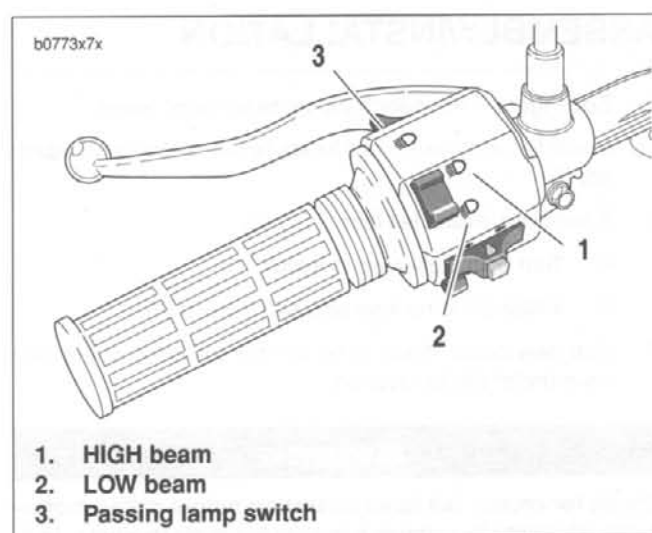

Figure 7-43. Headlamp Controls
- b. See Figure 7-43. Check headlamp LOW (2) and HIGH beam (1) settings.
- c. Set headlamp to LOW beam (2). Press passing lamp switch (3). Headlamp should flash HIGH beam for as long as the switch is pressed.